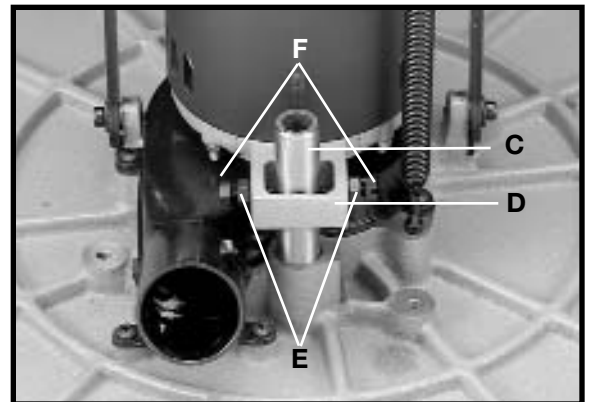

Fig. 23
4. **IMPORTANT:** Shaft (C) Fig. 23, must be positioned inside the center of bracket (D). To adjust, loosen the two lock-nuts (E) Fig. 23. Tighten or loosen the two adjusting screws (F) as necessary until the shaft (C) is centered inside the bracket (D), with the adjustment screws (F) contacting the shaft. Tighten the two locknuts (E) Fig. 23.